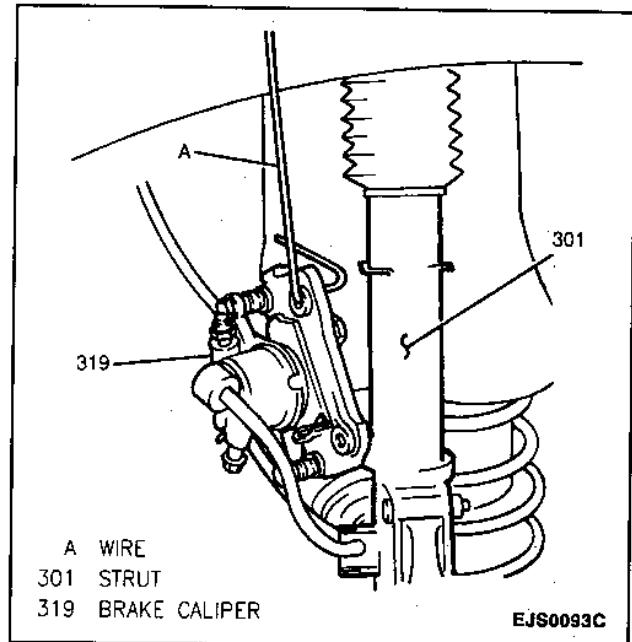

Figure 9—Suspending Brake Caliper Assembly
- Brake caliper from steering knuckle by removing two caliper pin bolts. Suspend caliper assembly with wire so as not to damage brake hose (Figure 9).